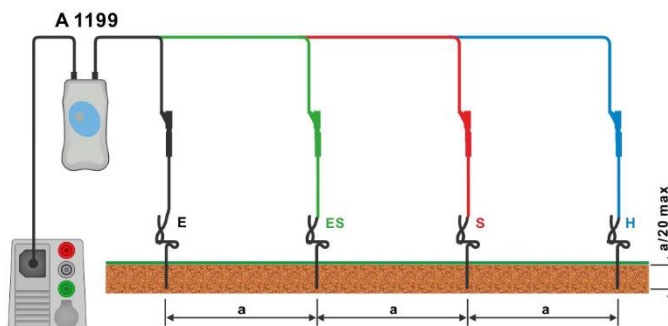

Figure 7.97: Specific earth resistance measurement
- › Connect test leads to earth probes, see **Figure 7.97**.